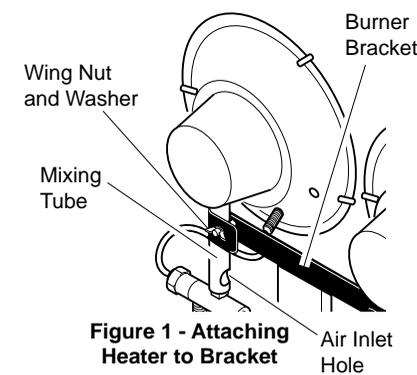

Figure 1 - Attaching Heater to Bracket
1. Place each burner head onto the burner bracket as shown in Figure 1. **CAUTION: The burner heads should be positioned as far down on the burner bracket as possible. Make sure the air inlet holes in the mixing tube on the burner head are not covered by the burner bracket**